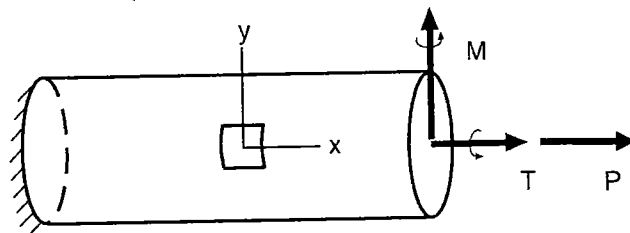

Figure 4
4. As shown in Figure 4, a circular solid shaft of diameter  $d$  is fixed at one end and is subjected to a bending moment  $M$ , a torque  $T$ , and an axial force  $P$  at the other end.